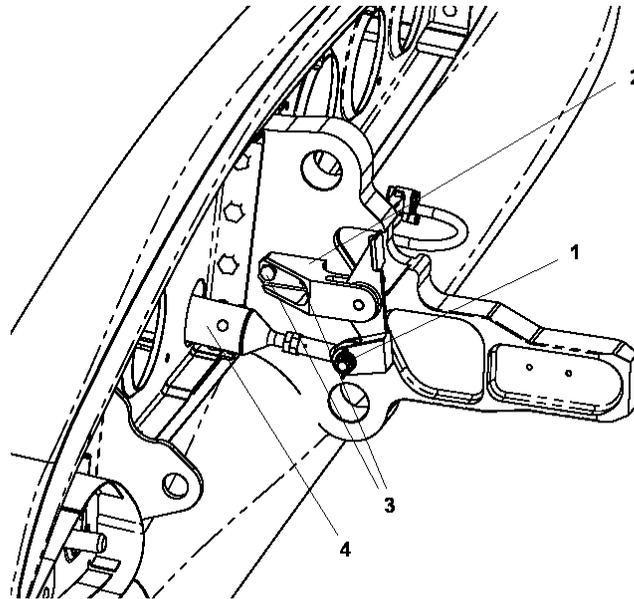

Figure 27-13 Pushrod to Quick-connect Device Connection
3. Refer to Figure 27-13. Remove split pin and discard. Remove nut, washers and bolt (1) securing inboard end of aileron inboard-wing pushrod to wing portion of aileron quick-connect device (2).